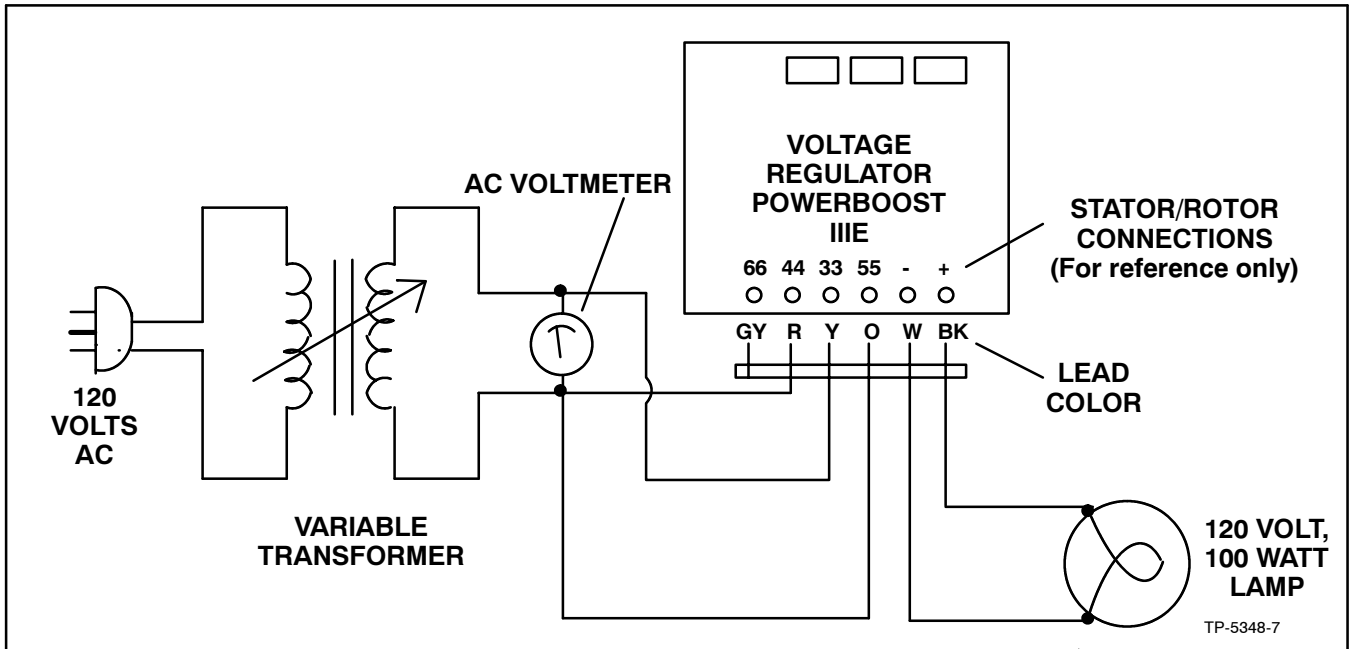

Figure 7-3. PowerBoost IIIE Voltage Regulator Test
2. Connect components as shown in Figure 7-3.